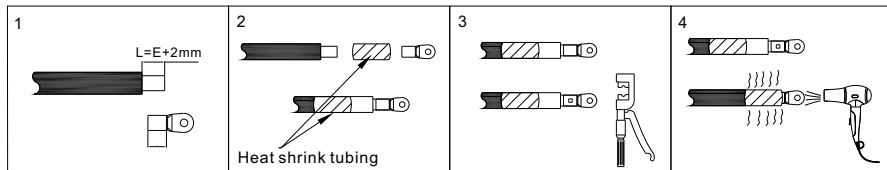

Fig 6.3 Crimping a cable
1. The waterproof silicone pad is used to protect the lower side of a terminal box. Cut holes in the pad according to the outer diameter of the cables to route them through. After routing through the cables, determine the cable stripped length based on the specifications of the terminals (18-22 mm is recommended). Crimp the cables and the terminals. See Figure 6.3 for crimping a cable;